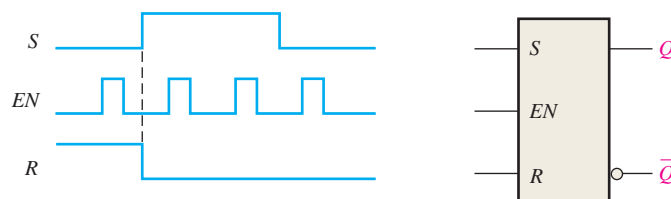

FIGURE 7-73
4. For a gated S-R latch, determine the Q and \bar{Q} outputs for the inputs in Figure 7-73. Show them in proper relation to the enable input. Assume that Q starts LOW.